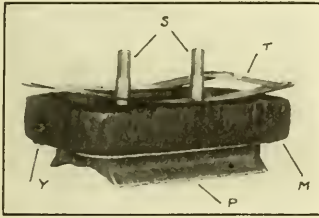
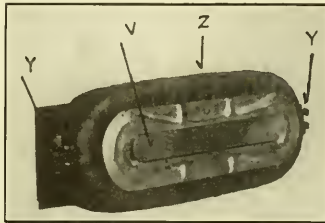

FIG. 3. MAIN FIELD POLE.
FIG. 4. INTERPOLE.
The next operation consists in boring out the inside diameter. This bore does not cut material from the whole inside surface of the casting, but only from the poles which project a few inches above the rest of the casting. To these poles are fastened the main pole pieces (P), Fig. 3, and interpole pieces (V), Fig. 4, by means of the stud bolts (S) passing through holes drilled to template in the frame and